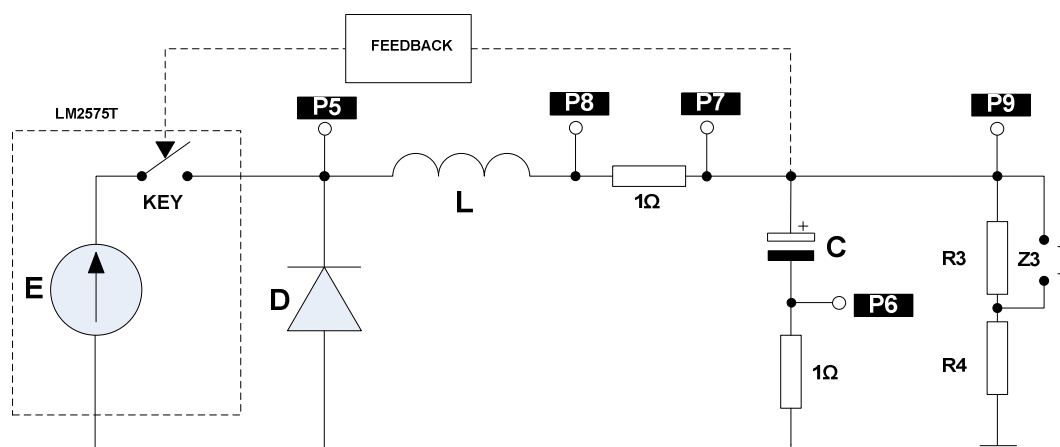

Fig. 2. Schematic of a switched mode voltage regulator.
2. Figure 2 presents a simplified schematic diagram of a switched mode step-down voltage regulator. In the circuit mark the points and draw how to connect the appropriate instruments (multimeter or oscilloscope) to observe: